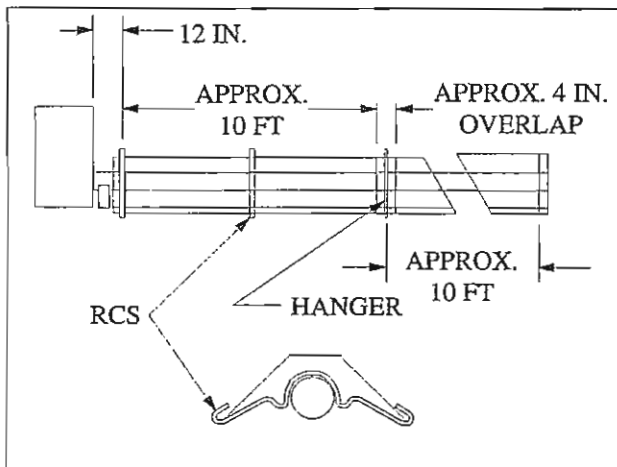
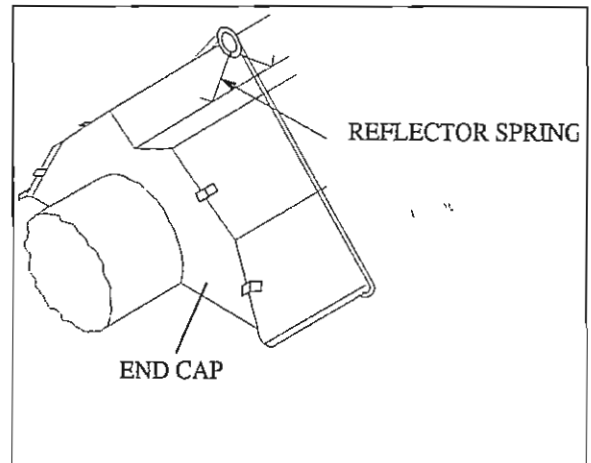

Figure 2-10
Figure 2-11
1. Install reflector center supports (RCS) as shown in Figure 2-10.
2. Slide reflector through wire hangers and adjust the reflector positioning spring in the V-groove on top of the reflector as shown in Figure 2-11. Overlap reflectors 4 in. for support (see Figure 2-10).
4. Install reflector end caps at exposed ends of the reflector runs with clips (Figure 2-11).